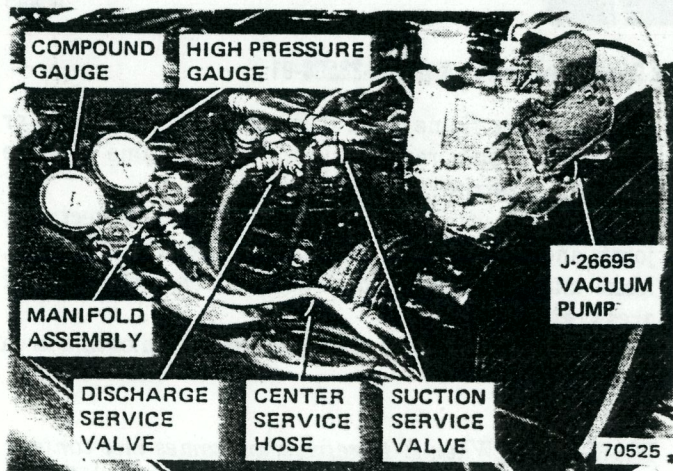

Fig. 3E-14 Typical Connections for Evacuating System with J-26695 Vacuum Pump
- (1) Connect pressure gauge and Manifold Assembly Tool J-23575.
- (2) Discharge system.
- (3) Connect center service hose to inlet fitting of vacuum pump (fig. 3E-14).